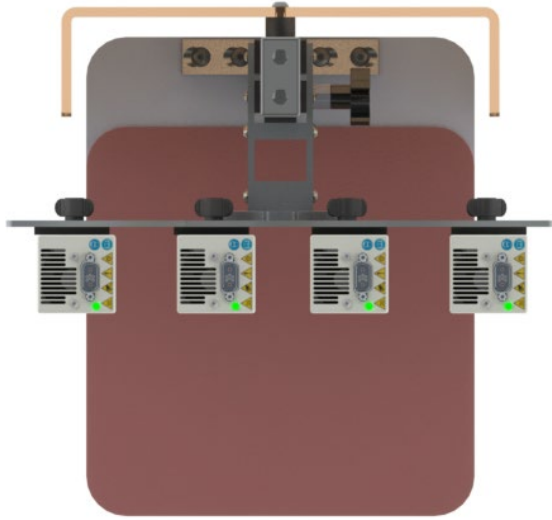
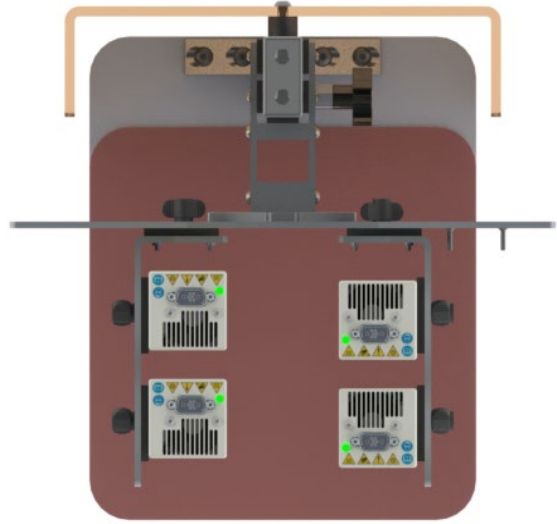

Figure 5. Emitters Positioned Linearly Along the Bracket
Figure 6. Emitters Built Outwards Using L-Brackets
7. The emitters can be positioned linearly along the bracket as shown in Figure 5, built outward using the supplied L-brackets as shown in Figure 6, or a combination thereof, depending on user need and application.